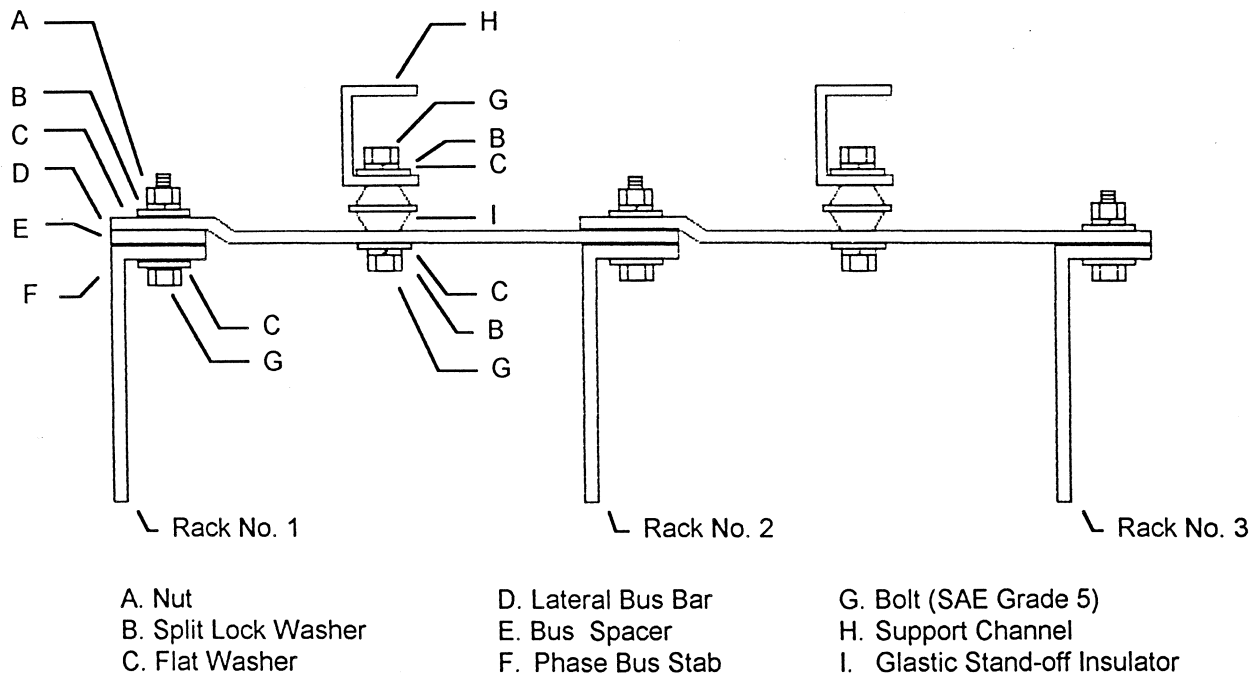
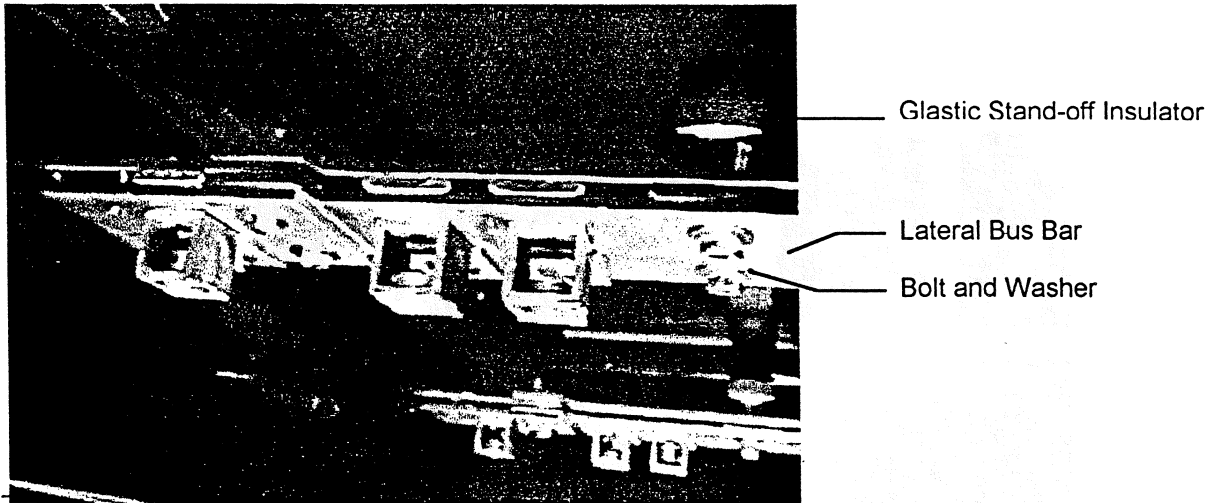

Figure 1: Typical Phase Bussing Assembly (Top View)
Figure 4: Lateral Phase Crossbussing, Top View Detail
4. If the sections contain lateral bussing, line up the mating parts, including any spacers or stiffeners provided. See Figures 1 and 2 for proper assembly order of phase and neutral bussing, and Figures 4 and 5 for details.
5. Bolt the bus bars together with thw 3/8" bolts, flat washers (one per side), lock washers, spacers (if required), and nuts (supplied). Tighten to a torque of 20 ft. lbs (27 N-M). See Figures 1,2 and 6.